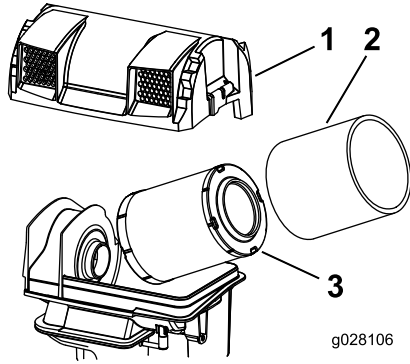

Figure 34
- Remove the foam and paper elements (Figure 34).
- Remove the foam element from the paper element (Figure 34).
- Install the elements onto the air-cleaner base (Figure 34).